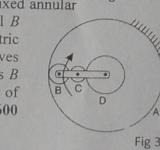

Fig 3
3. An epicyclic gear train, as shown in Fig. 3, is composed of a fixed annular wheel A having 150teeth. The wheel A is meshing with wheel B which drives wheel D through an idle wheel C, D being concentric with A. The wheels B and C are carried on an arm which revolves clockwise at 100 r.p.m. about the axis of A and D. If the wheels B and D have 25 teeth and 40 teeth respectively, find the number of teeth on C and the speed and sense of rotation of C. [Ans. 30 ; 600 rpm. clockwise]